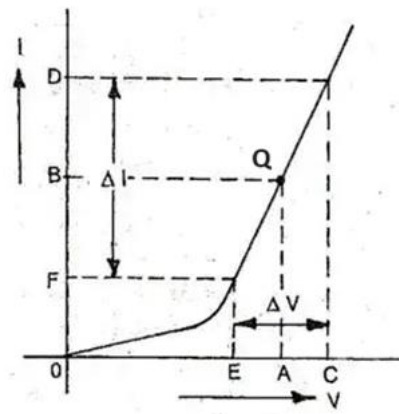

Fig 3.1 Dynamic resistance
3. Dynamic Forward Resistance $r_{ac} = \Delta V / \Delta I \Omega$ (Figure 3.1)